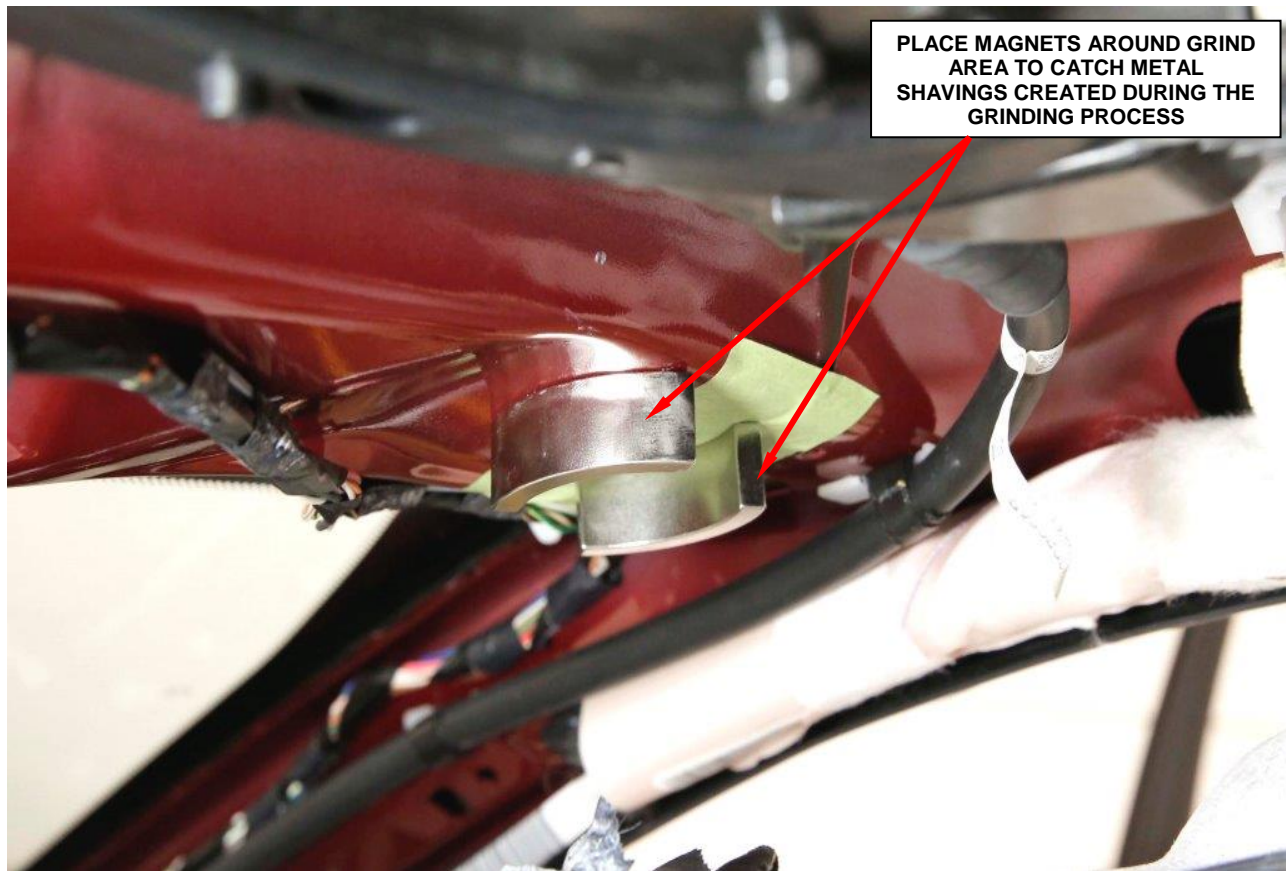

Figure 14 – Install Magnets to Catch Metal Shavings (right side shown)
36. Install the two supplied magnets around the left visor hole to catch any metal shavings created from the grinding process (Figure 14).